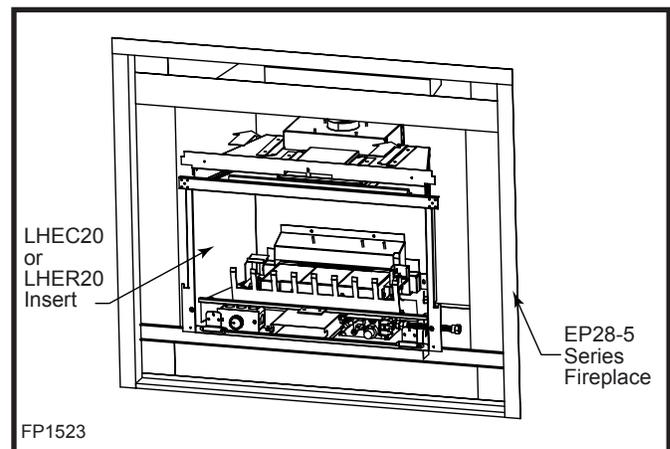

Fig. 31 Install insert by pushing it all the way inside the shell.
6. Install the LHEC20/LHER20 insert by pushing it all the way back inside the shell. (Fig. 31) For complete gas line and venting installation, refer to Pages 6 and 8.